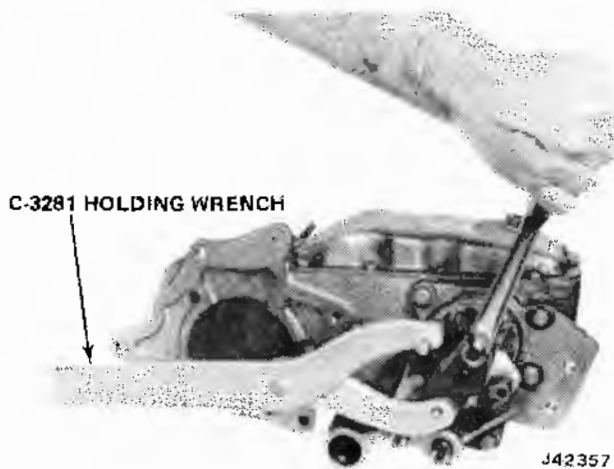

Fig. 8-8 Removing Front Output Shaft Nut
- (5) Remove intermediate gear assembly through bottom of case.
- (6) Remove front output shaft yoke and washer (fig. 8-8) using Yoke Holding Wrench Tool C-3281.